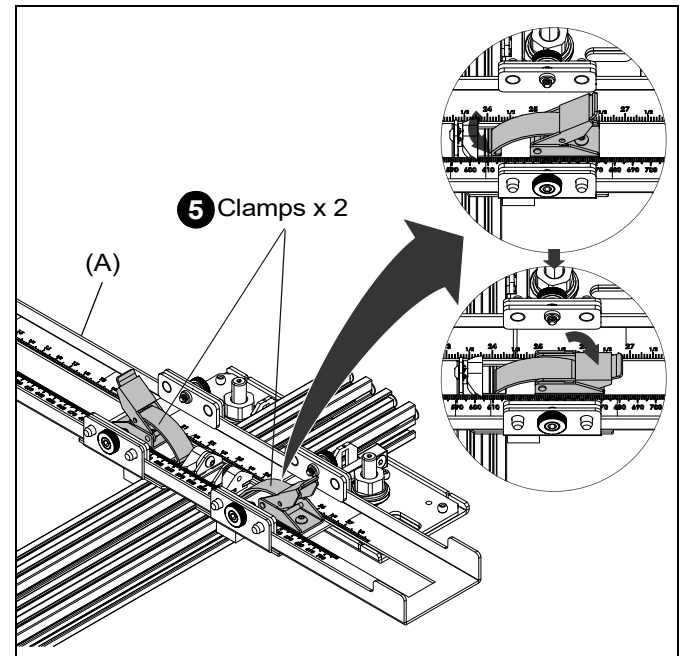

Figure 4
5. Once the position is set, clamp the spacer tool (A) to both the right and left uprights. (See Figure 4)